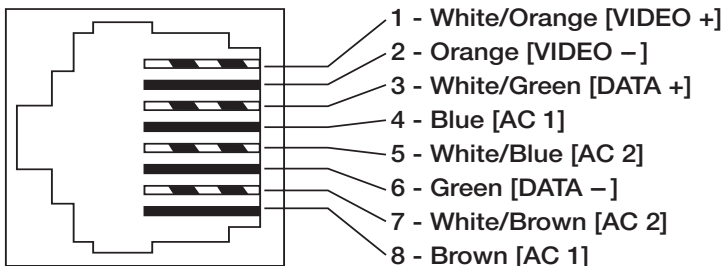

Fig. 4
5. Connect 220VAC 50/60Hz to the black and white flying leads of open frame transformer. Secure ground wire (Green) to earth ground (*Fig. 4, pg. 8*).
6. Select 24VAC or 28VAC power output for each of the Channels 1-4 on HubSat4WPV (*Fig. 4, pg. 8*) with the corresponding output voltage switches. Select OFF position when servicing or installing individual cameras (*Fig. 2d, pg. 6*).
HubWayAv/HubWayAv2 passes AC voltage from pins 4, 5, 7, 8 to terminals marked [AC Power] (Fig. 4, pg. 8).
HubWayDv/HubWayDvi converts AC voltage to DC voltage from pins 4, 5, 7, 8 to terminals marked [- 12VDC +] (Fig. 4, pg. 8).